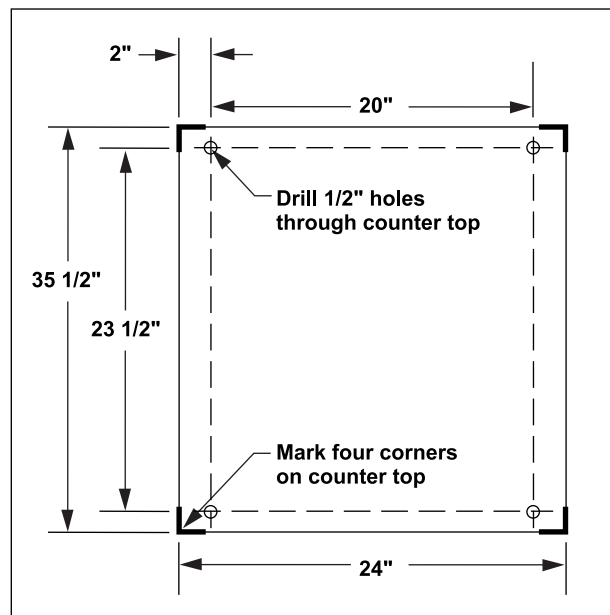

Figure 1
1. Place steamer in the desired location on the countertop and mark four corners. Remove the steamer and drill 1/2" holes as indicated in Figure 1.